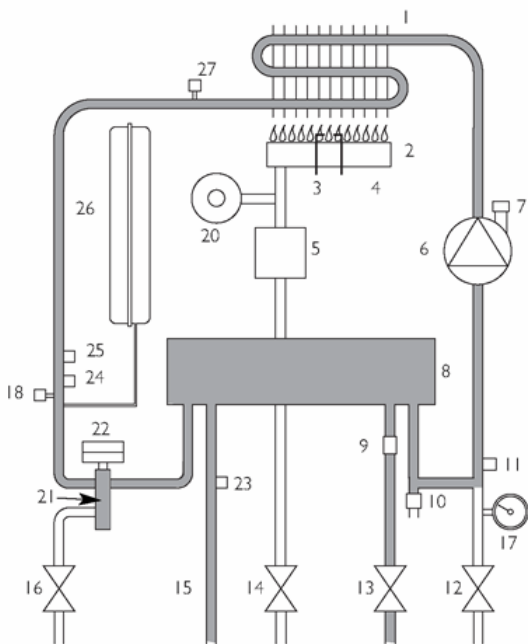

Fig. 3
**3.2 Domestic Hot Water Mode (Fig. 3)**